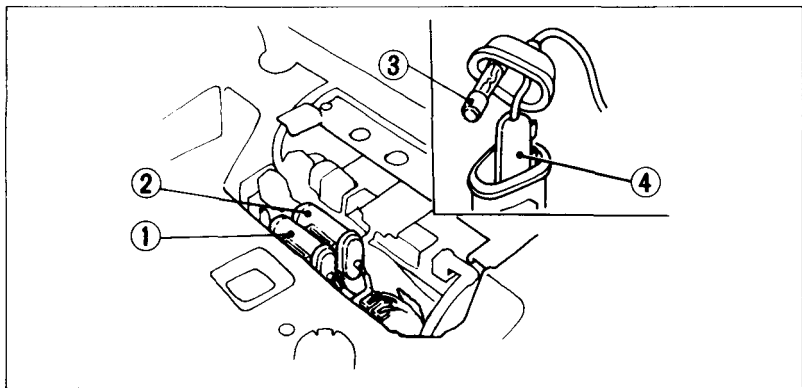

Fig. 4-19 (1) Main fuse (Red wire) (3) Spare fuse
As illustrated in Fig. 4-19, the main fuse (1), the sub fuse (2) and the spare fuse (3) are located in the battery compartment. Both the main fuse and the sub fuse are 15 A. (The main fuse is connected to the red wire.)